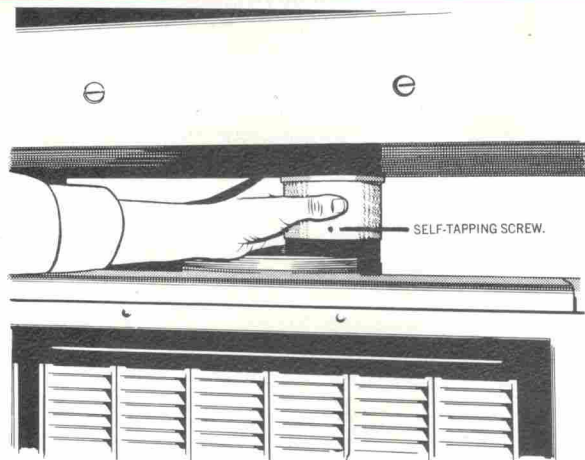

Fig. 18
7. Slide the heater back into its case and connect the flue (as shown in Figure 18). Drill a hole through the flue into the flue outlet on the heater and fasten into position with self-tapping screws as shown. This join should also be sealed with fireproof cement.